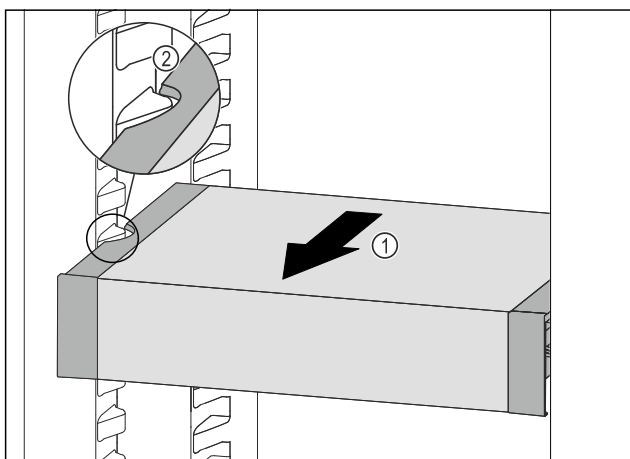

Fig. 248
- Pull VarioSafe forwards Fig. 248 (1) until the recesses in the side of the VarioSafe are at the level of the support rib in the fridge section. Fig. 248 (2)